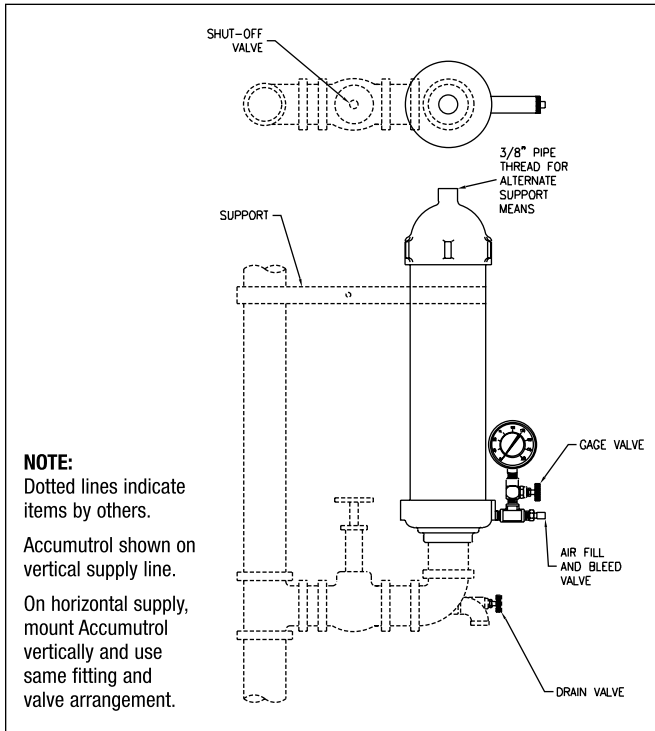
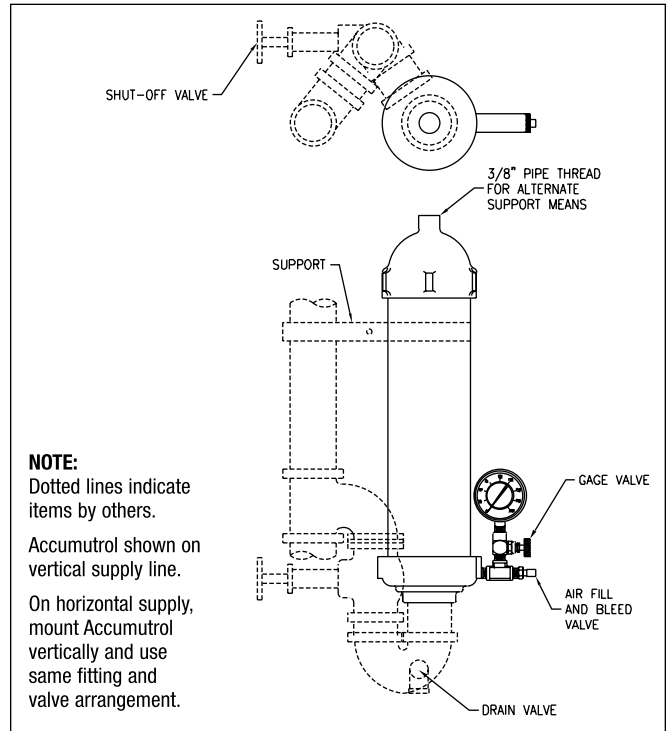

Figure 1
Figure 2
2. Installation should be as shown schematically in Figure 1 or Figure 2 (see reverse side). In most cases, an arrangement per Figure 1 is satisfactory. In cases where the system will be drained frequently, the arrangement of Figure 2 is recommended to prevent trapping of excess air in the Accumutrol at each re-filling of the system as this could require occasional bleeding of the excess air from the unit. Thus, Figure 2 arrangement will eliminate the need for more frequent checking of the precharge pressure in the unit when the system is to be drained each night or over week-ends. Note the shut-off valve and drain valve are necessary to facilitate precharging and maintenance of the unit.